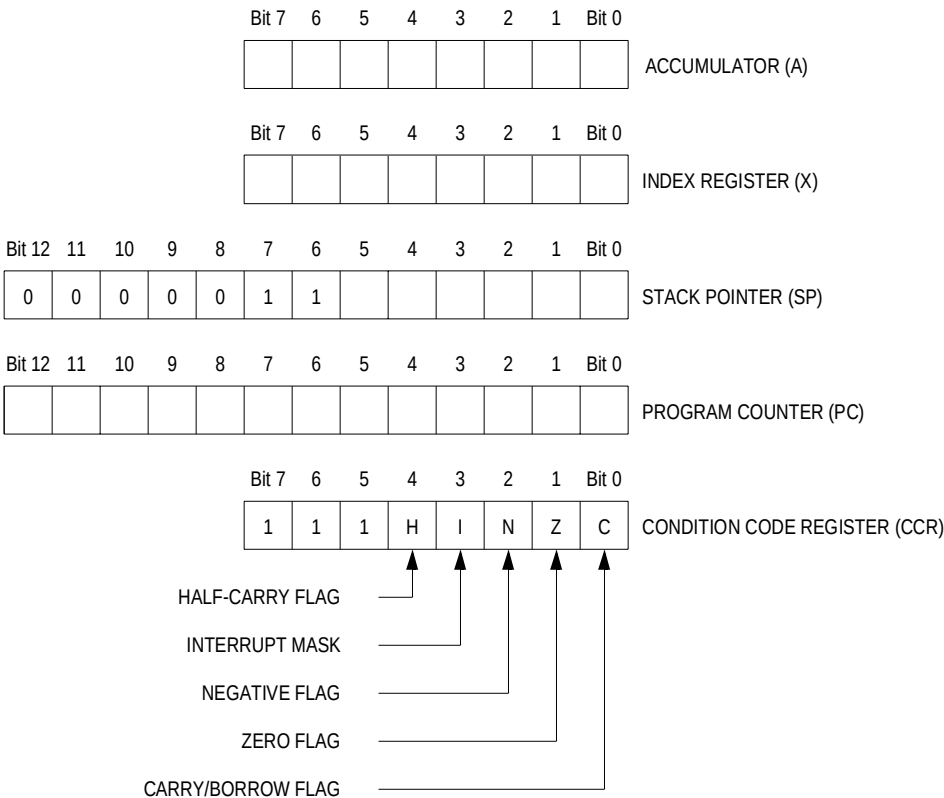

**Figure 3-1. Programming Model**
**Figure 3-1** shows the five CPU registers. These are hard-wired registers within the CPU and are not part of the memory map.